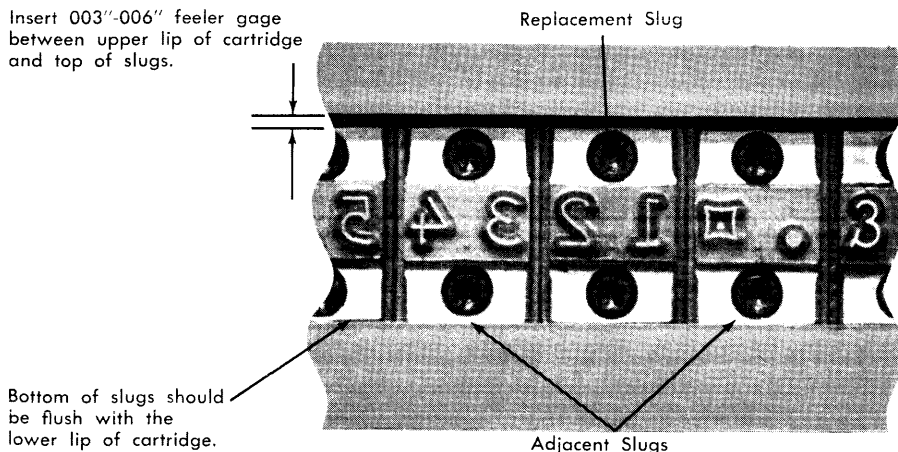

Figure 27. Type Slug Replacement
4. Hold the slug firmly against the bottom cartridge plate by inserting the necessary feeler gages (.003"-.006") between the upper cartridge plate and the top of the slug being replaced. The feeler gage should straddle the two adjacent slugs as shown in Figure 27.